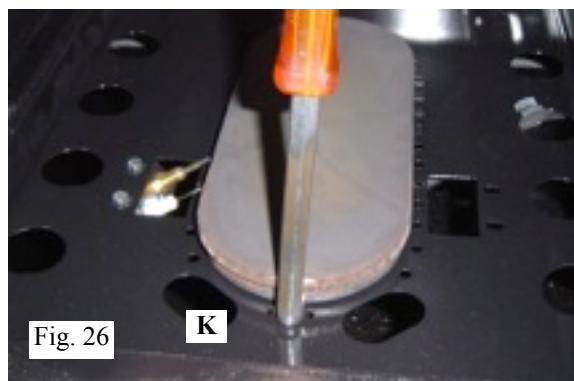

Fig. 26
-Unscrew screw **K** holding the burner (Fig.26).